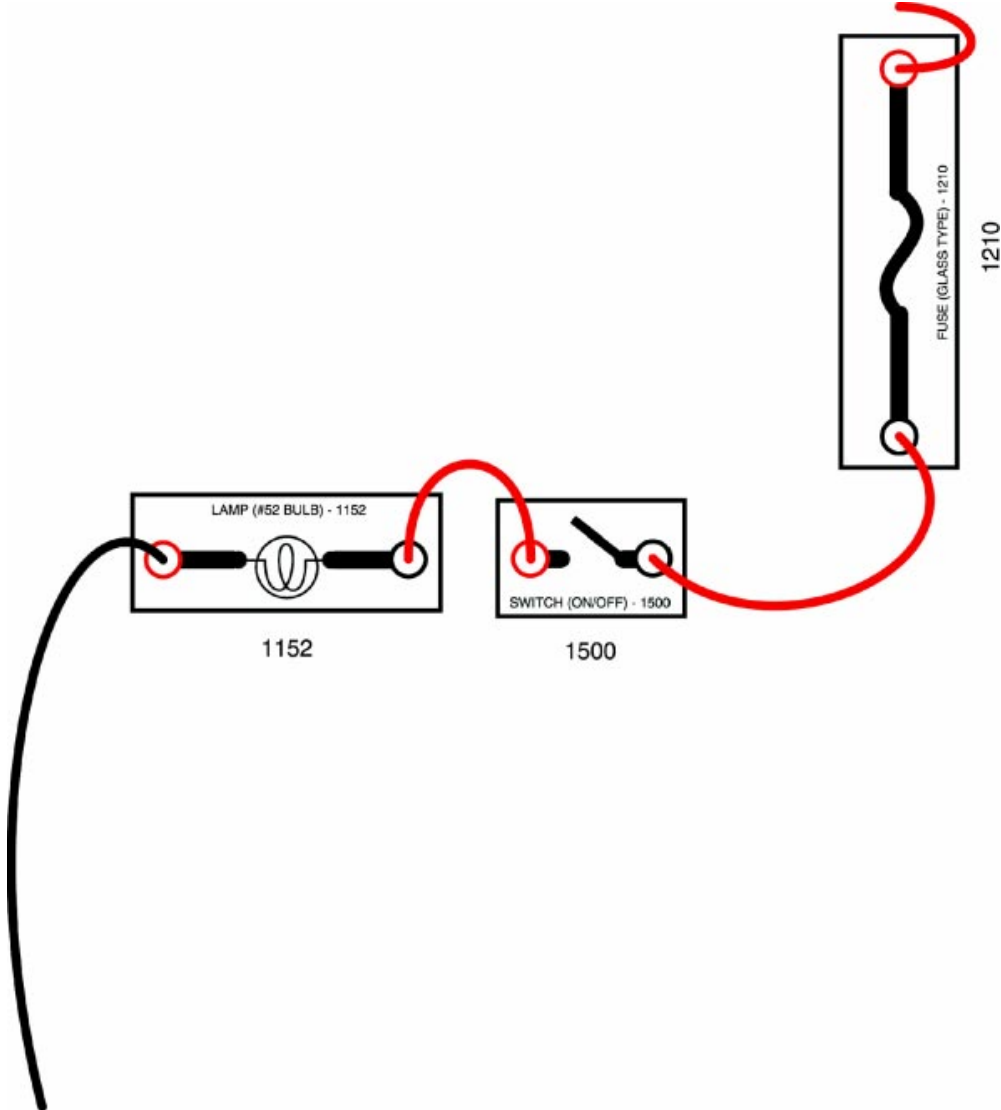

Fig. 1W3-1
1. Continue to use the circuit shown in Fig. 1W3-1.
4. At each test point shown on the wiring diagram (see Fig. 1W3-1) connect the DMM test leads as follows: